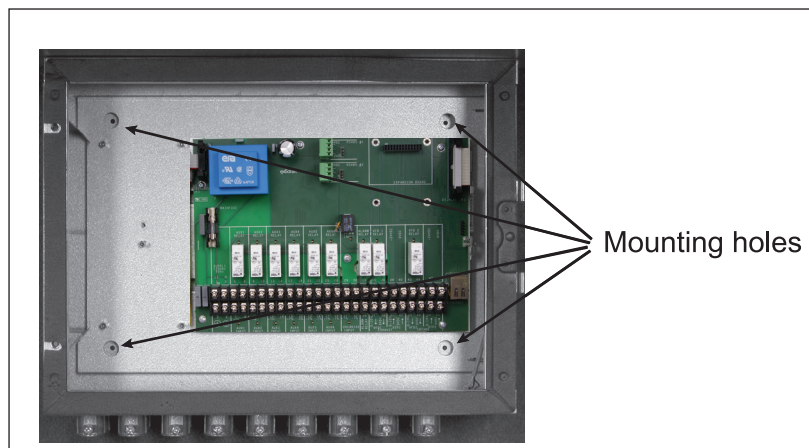

Fig. 4
The control can be mounted directly on a wall or similar. The mounting holes are located inside the control as shown in Fig. 4. The distance between the control and the transducer should not exceed three hundred (300) feet.